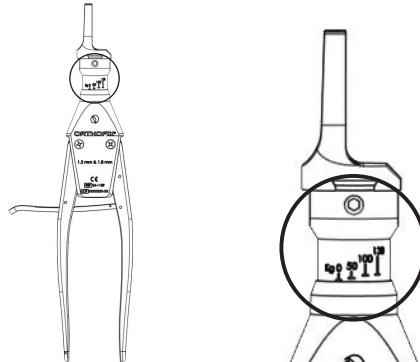

Figure 1
- 1) The Wire Tensioner (54-1139) allows tensioning wires up to 130kg. An indication of the applied tension can be read from a scale (fig. 1).